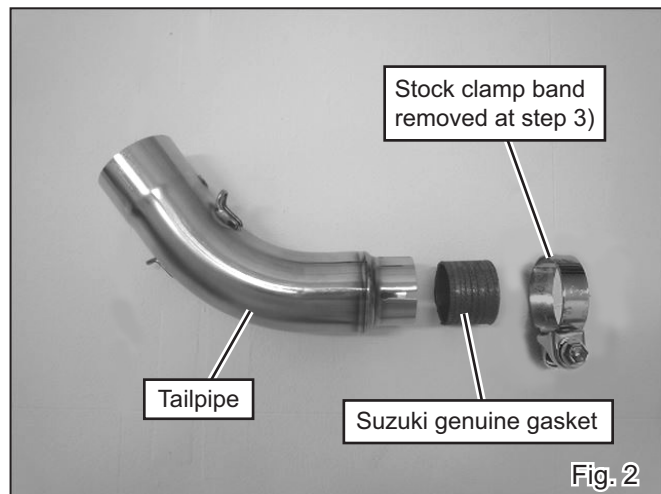

Fig. 2
- 4) Insert Suzuki genuine gasket into front of Tailpipe and install stock clamp band removed at step 3) (See Fig. 2).